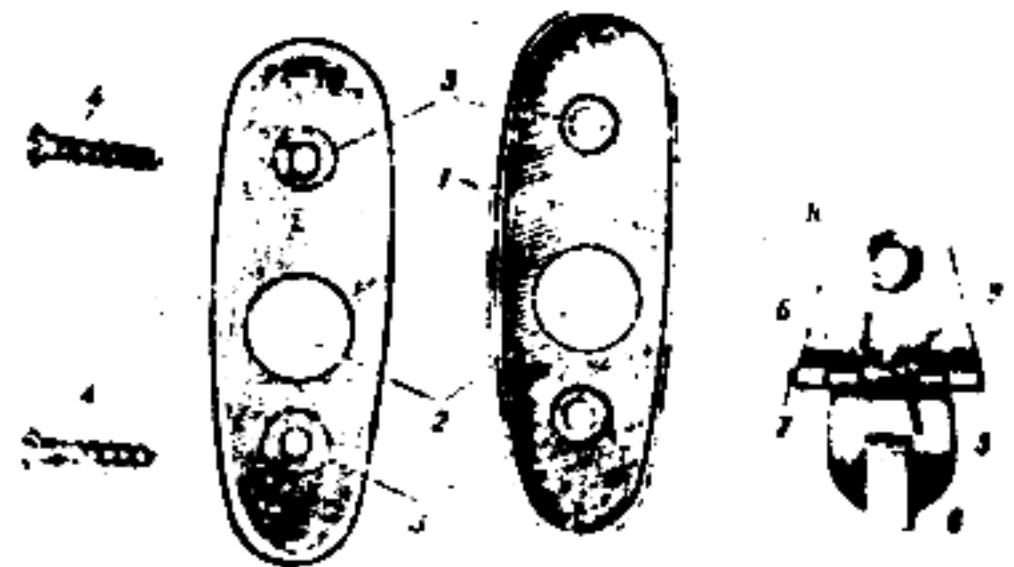

Figure 51. Butt plate (5-2) with cover.
The butt plate (fig. 51) protects the butt from splitting. It has flanges (1) for grasping the face of the butt, hole (2) through which the accessory case is inserted, and holes (3) for screws (4).